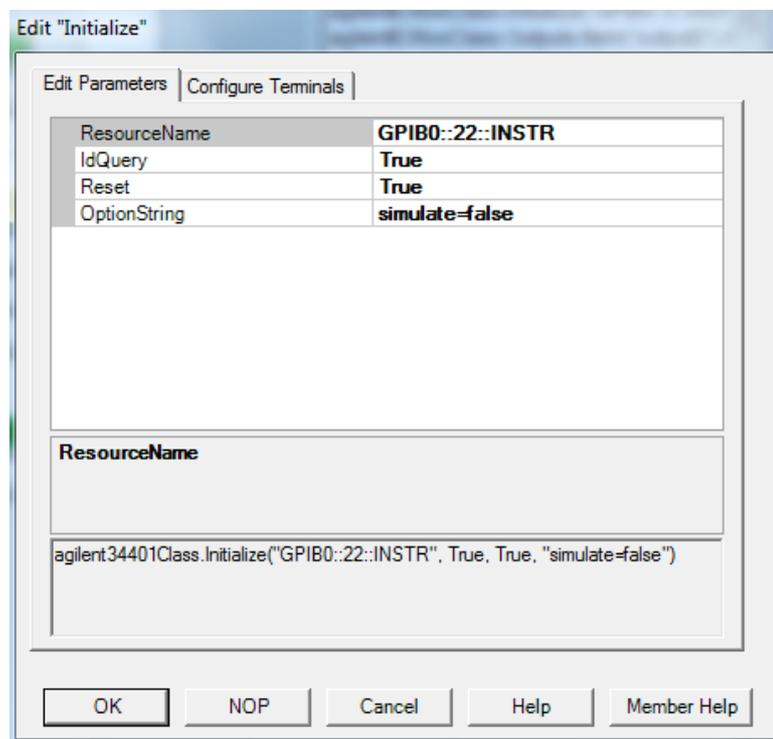

Fig. 20: Initializing IVI driver object for Agilent 34401A
32) Double click on the **<Double-Click to Add Operation>** bar of the **voltmeter**. Select **Initialize** and Click **OK**. Enter **simulate=false** into the **OptionString** field as shown in Fig. 20 and click **OK**.